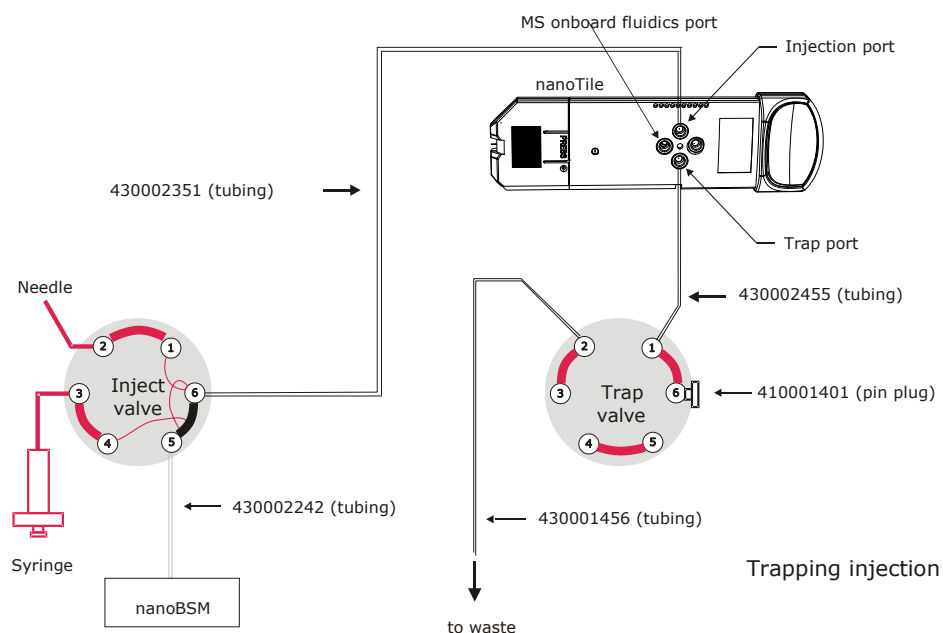

Figure 94 - Diagram of connections (TRIZAIC)
1. Make the connections between the nanoACQUITY and the nanoTile (Figure 94).